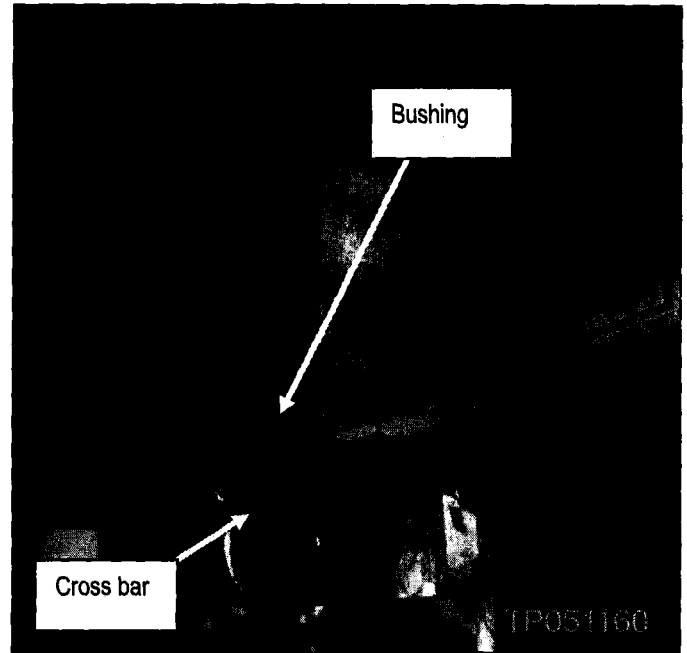

Figure 30
24. Place an index mark across the bushing and cross bar for proper re-assembly (see Figure 30).